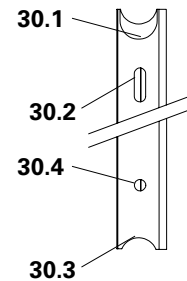

Fig. A5.01a
- Side with semi-circle (**30.3**) and drilled hole (**30.4**). (Fig. A5.01a)